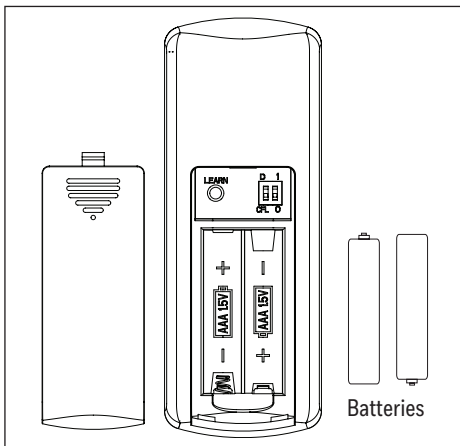

Figure 6.1
1. Use a flat-head screwdriver, if necessary, to remove the battery cover from the back of the remote found in remote pack. Insert two batteries into the remote; ensure polarity of batteries match the polarity indicated in the battery compartment -- positive (+) to positive (+) and negative (-) to negative (-). Replace the back cover and press the fan on/off button on the remote to ensure the LED indicator illuminates and the remote turns on the fan (Figure 6.1).
Remote does not work.	1. Power surge may have cleared the memory and remote needs to be resynced to the receiver. Syncing instructions: Turn off the power at the breaker box for at least 10 seconds and then turn the power back on. Within 30 seconds, press and hold the "LEARN" button (Figure 6.1) on the back of the remote for 3 seconds. The fan will turn on at high speed signaling a successful synchronization. 2. Insert new AAA batteries in battery compartment of the wall control. 3. If there are several remote fans in proximity, turn the power off to those fans and re-sync the fan.